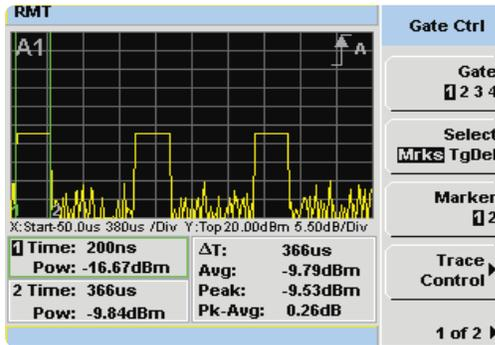

Figure 7. Gate Control display
6. View the Gate Control screen.	Press []. On the display is the pulse trace with delta time, delta average, delta peak, and delta peak-to-average power ratio for Gate 1. See Figure 7.